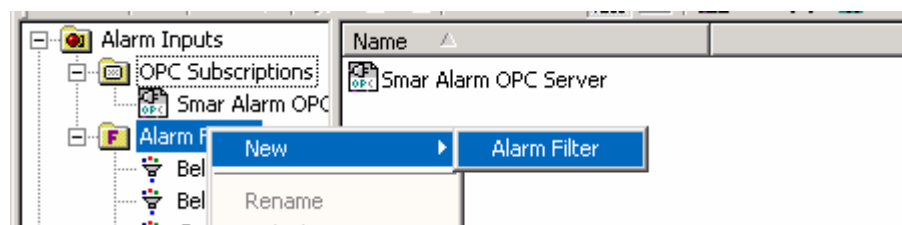

Figure 2.16. Creating a New Alarm Filter
1. Click the **Insert New Filter** button on the Configurator toolbar, or right-click on the **Alarm Filters** folder (found under the **Alarm Inputs** folder on the tree control) and select **New > Alarm Filter** from the pop-up menu, as shown in **Figure 2.16**.